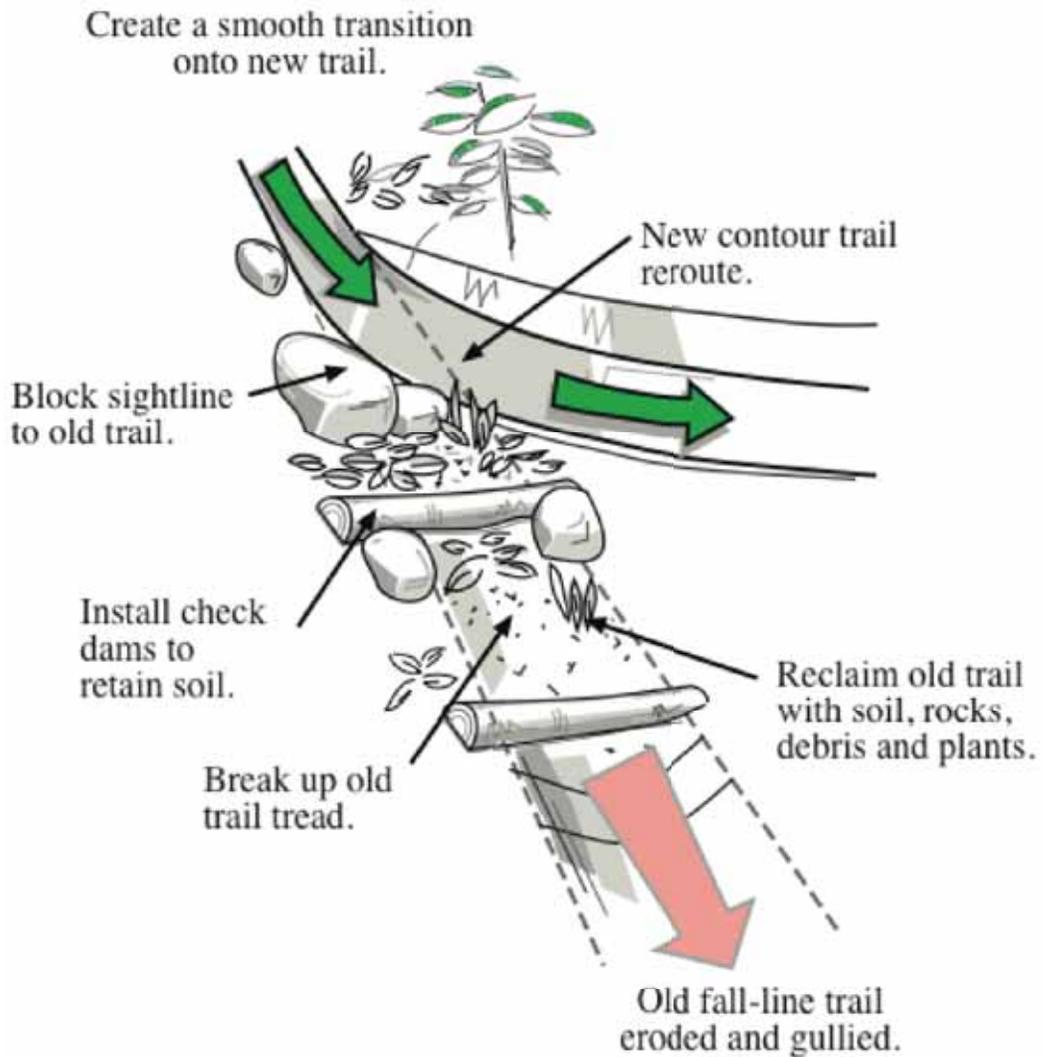

Figure 14: Trail Closure
5.12 Trail Closure (figure 14)